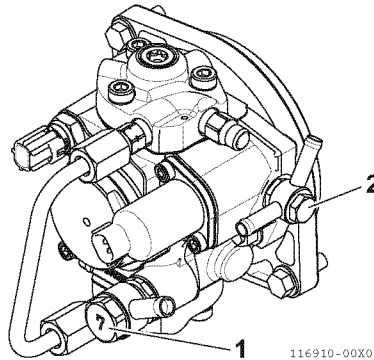

Fig.50-29
- 2 - Slightly turn the hollow screws at the fuel inlet side (1, Fig.50-29) and fuel outlet side (2, Fig.50-29) counterclockwise to loosen them, then clean the fastening location again. (This is done to remove any paint chips or other foreign matter generated when the bolts were loosened.)